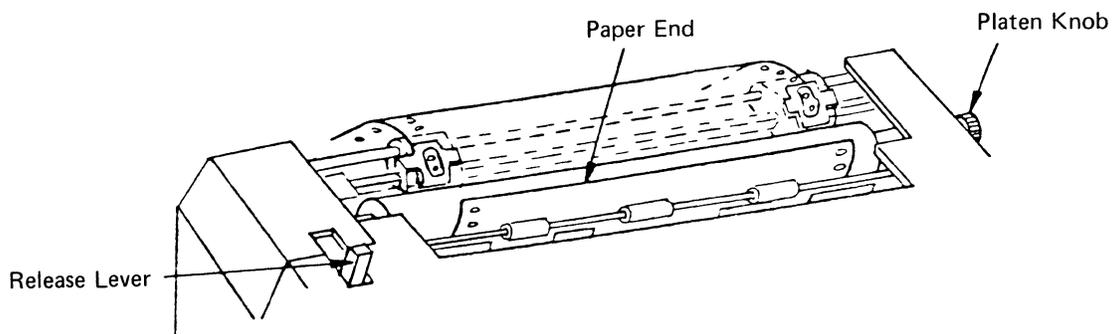

Fig. 9 Paper Insertion (4)
- (6) Now push down the paper clamps of the sprocket tractors. Turn the platen knob clockwise, bringing the paper out on the front side of the platen. Return the roller shaft and release lever to their previous positions. (Refer to Fig. 9.)